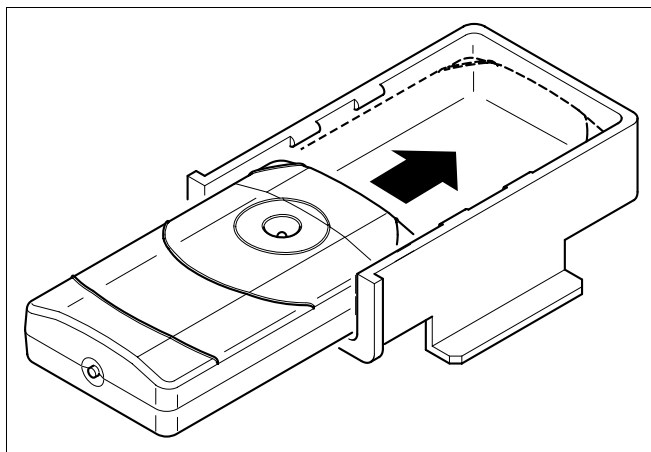

fig. 27 Place receiver into bracket
- Slide the receiver into the bracket (supplied with the boiler) so that it is secured (fig. 27).